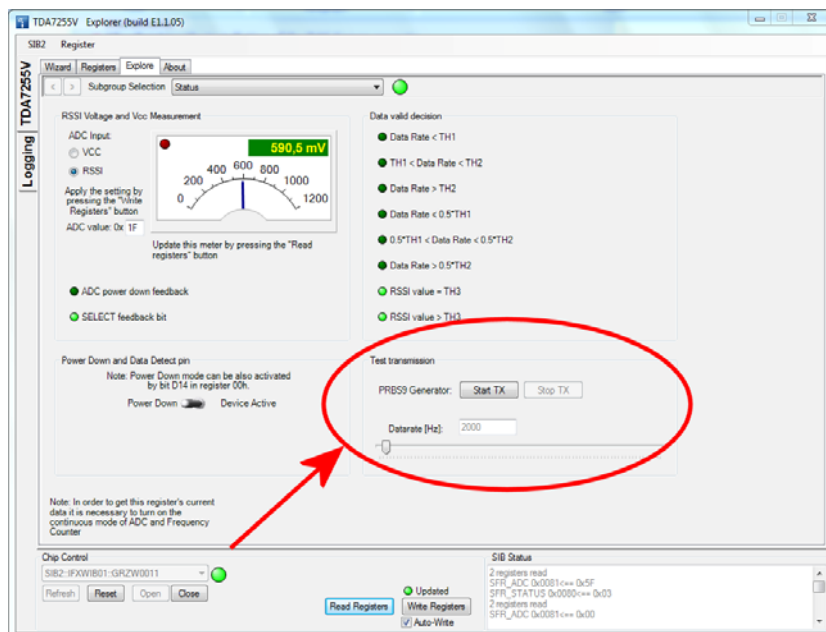

Figure 11 TDA7255V-Explorer, Explorer tab, Test transmission field
- A PRBS9 sequence with variable data rate can be generated by the **TDA7255V-Explorer** and will be applied to the data input when closing the jumper JP2 (see Figure 3). The desired data rate can be adjusted and the transmission started in the **Test transmission**-field in the **Explore**-tab (see also Figure 11).